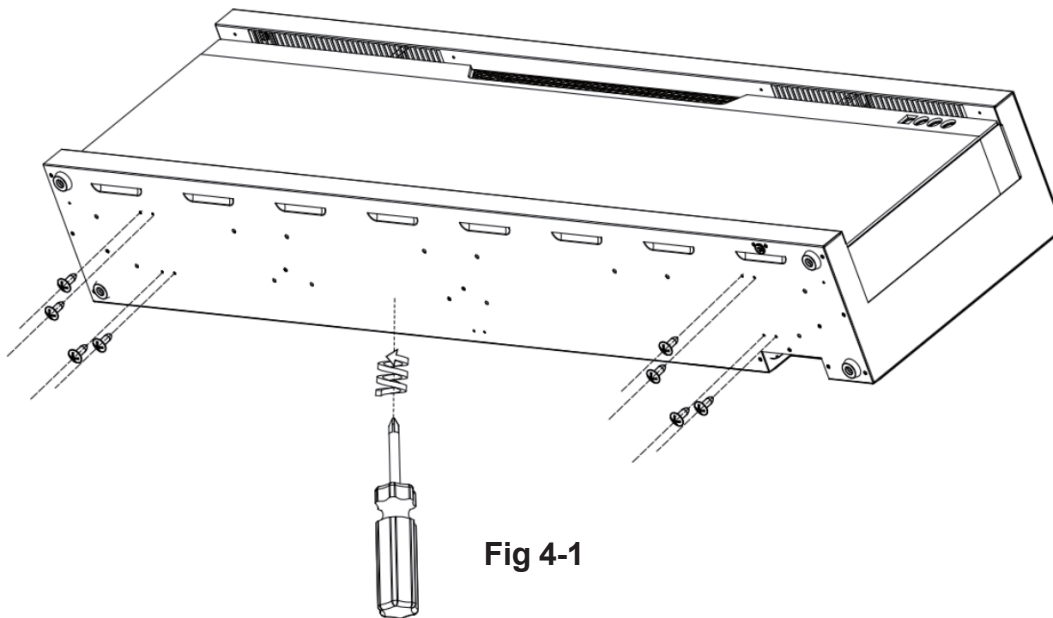

Fig 4-1
A. Remove all the screws at the bottom of the appliance. (**Fig 4-1**). Set the screws aside.